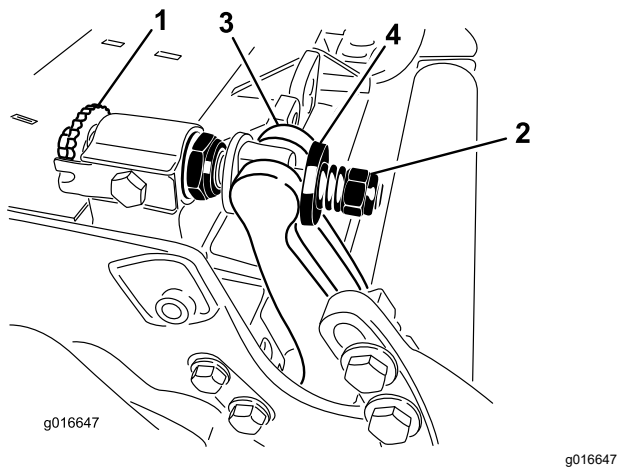

Figure 30
- Turn the bedbar-adjuster screws counterclockwise to back the bedknife away from the reel (Figure 30).
- Back out the spring-tension nut until the washer is no longer tensioned against the bedbar (Figure 30).